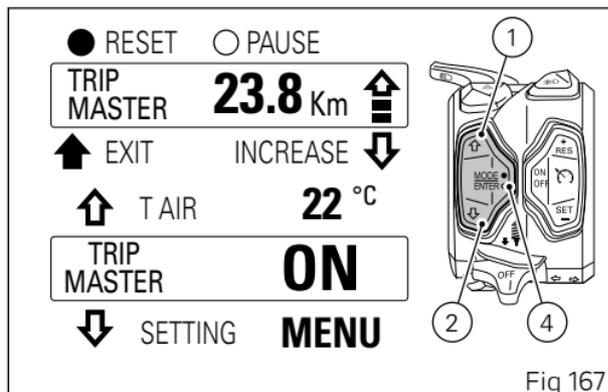

Fig 167
Then, the Trip Master control is displayed above the menu and it can be managed with buttons (1), (2) and (4) (Fig 167).